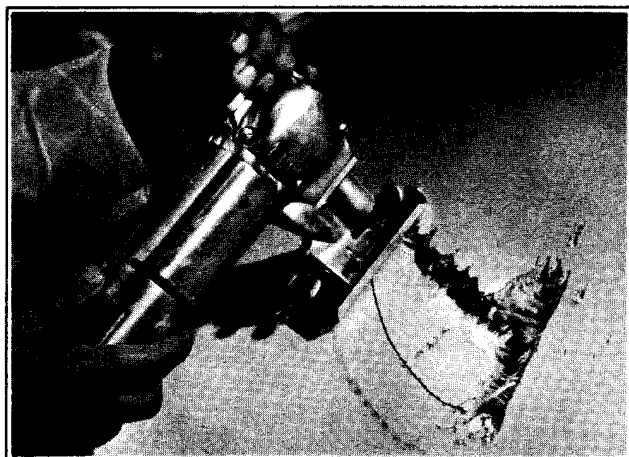

Figure 2-54. Sawing Out Damaged Area
2. Prepare injured area by cutting back fractured material to the sound part of the material. A key-hole or electric saber saw can be used to cut out the ragged edges. See Figure 2-54.